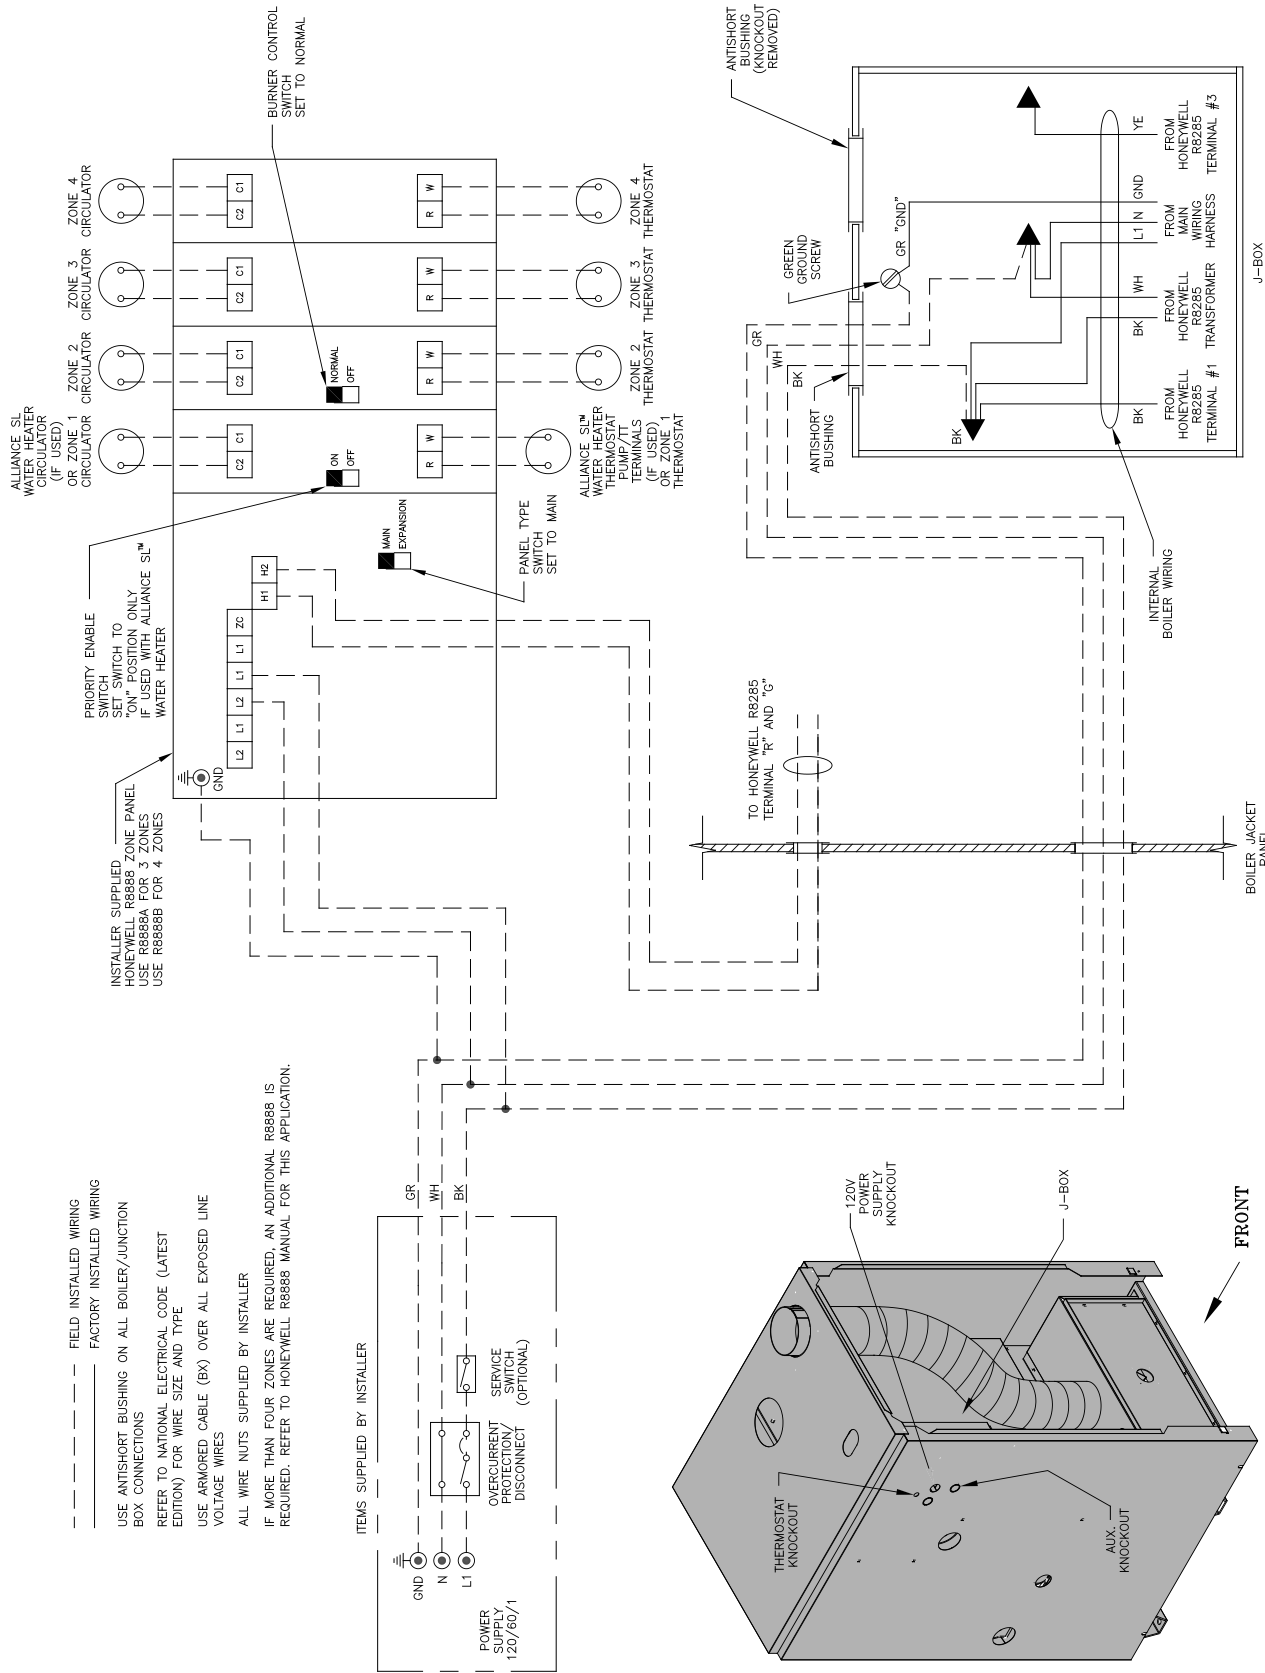
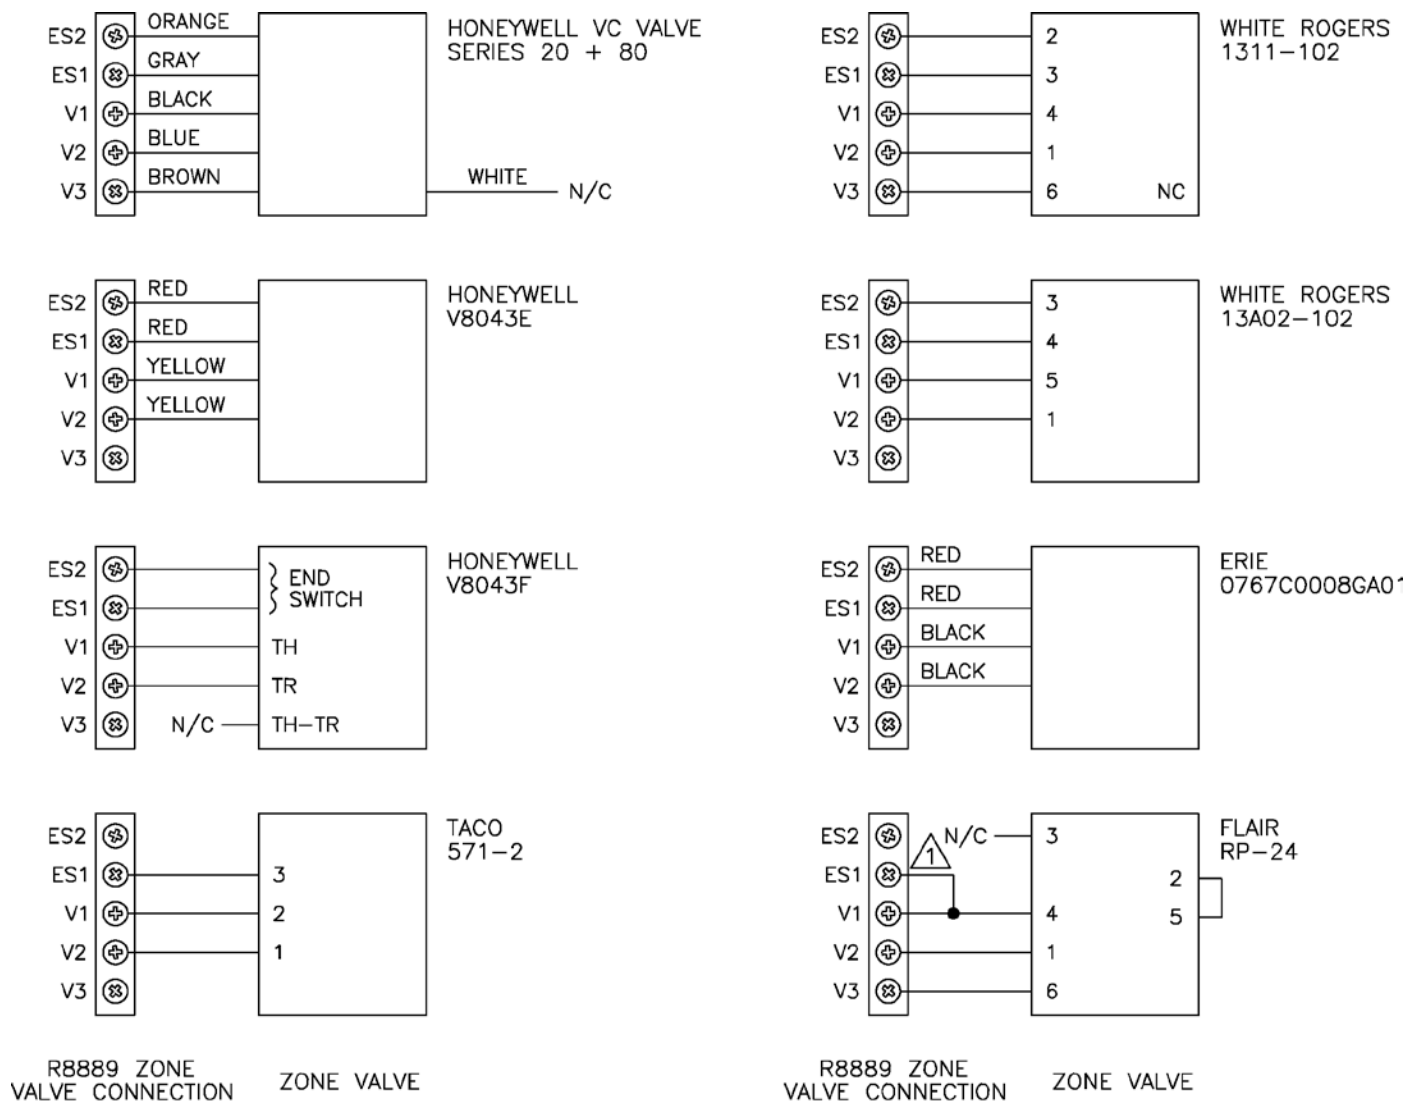

Figure 33: Zone Valve Zoned System Wiring Schematic
Figure 34: Different Manufacturer's Zone Valve Connections to Honeywell R8889
8. Conventional Zone Valve Zoned System – Refer to Figure 33. Wiring to the most popular models of zone valves is given in Figure 34.